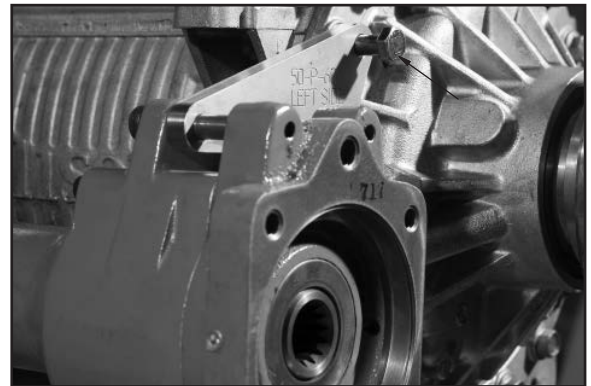

Figure 17
15. As soon as at least 1 bolt is started, the tube assembly cannot fall. The unit can be aligned and slipped together with the transmission taking the weight (**Fig. 17**).